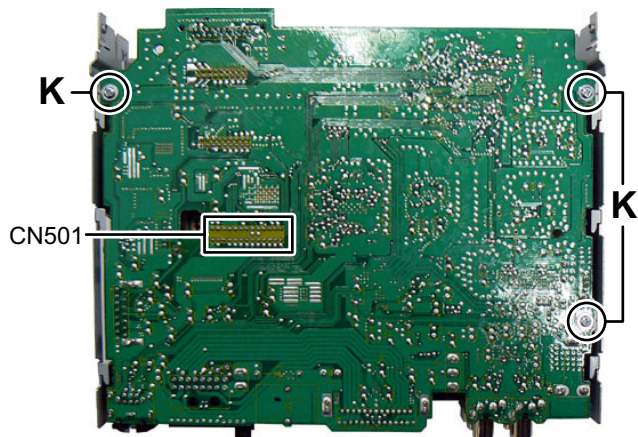

Fig.5
- (2) Remove the three screws **K** attaching the Main board. (See Fig.5)
- (3) Disconnect B-B connector CN501 of the Main board connected the CD mechanism and Main board. (See Fig.5)
- (3) Take out the top cover in an upward direction. (See Fig.5.)